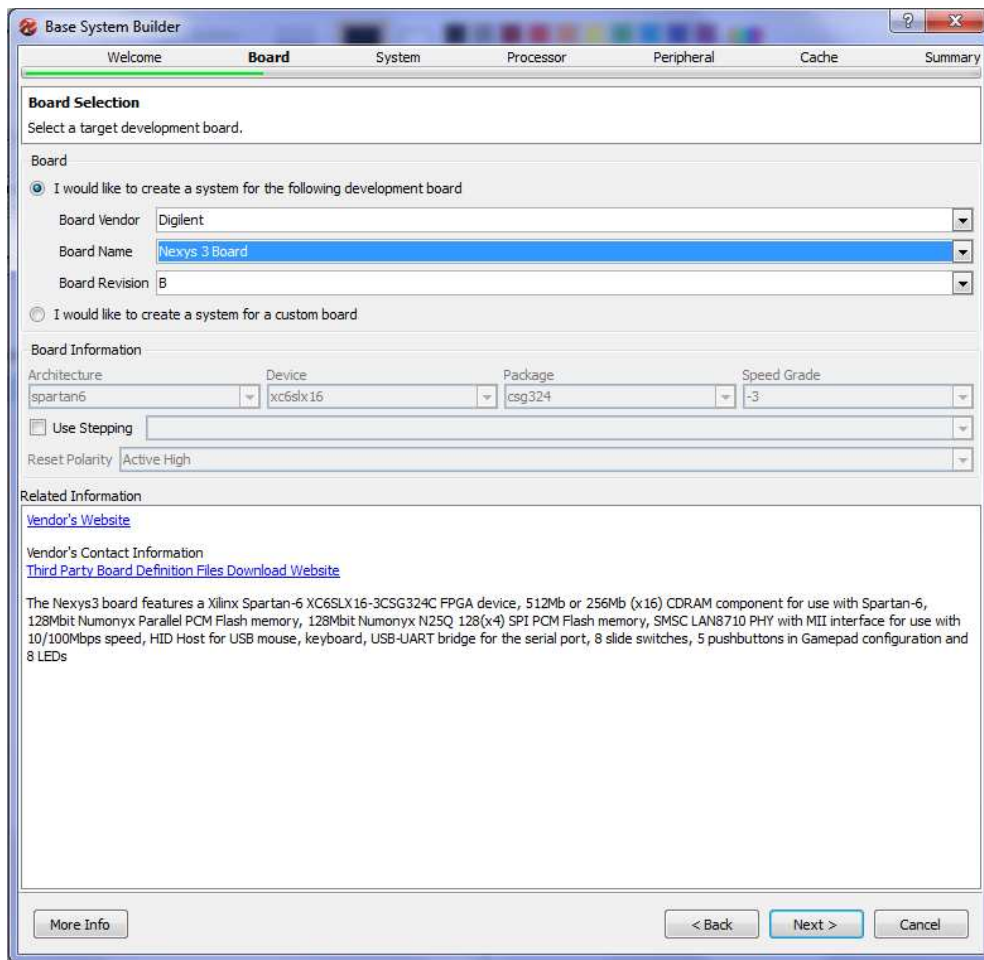

Figure 5. Board Selection (Step 5)
Step 5: The second screen of the wizard is shown in Figure 5. In this screen we select the board that we want to use to build the system. The XPS allow you to build a design based on a specific board or create a custom design that is generic. Select the first option **“I would like to create a system for the following development board”**. This will allow you to select a specific board. The board is specified by three options:
The Nexys 3 board is equipped with Spartan 6 FPGA chip which is a mid-size FPGA from Xilinx. The board has several peripherals that can be used with the FPGA to do several functions (See Figure 5):